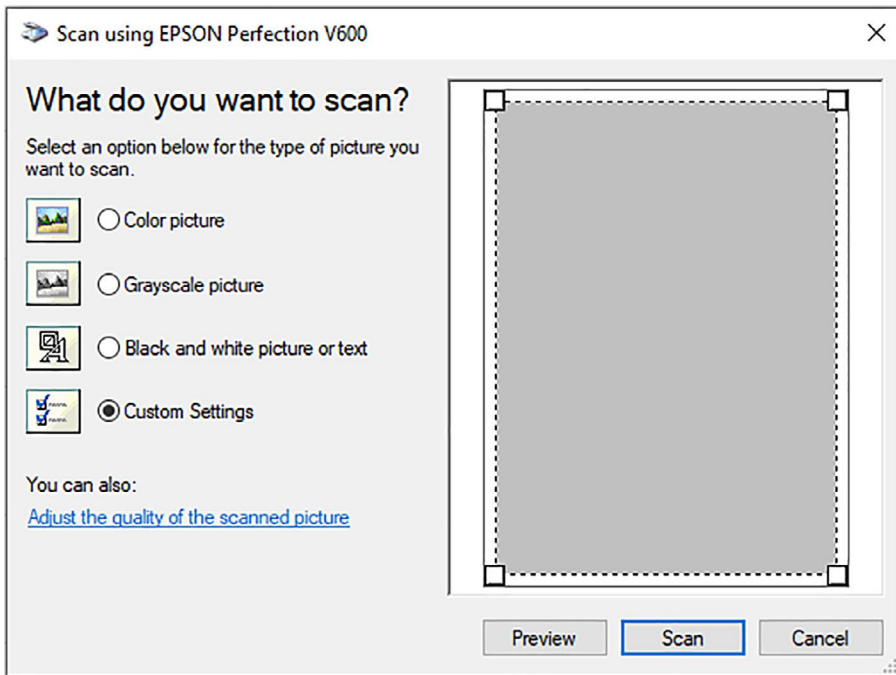

Figure 1-24. Scan using WIA (scanner name) dialog box with its various options
4. While it is selected, click OK. This should then take you to the scanner dialog box, and you will be presented with various options on how to scan. Refer to Figure 1-24.